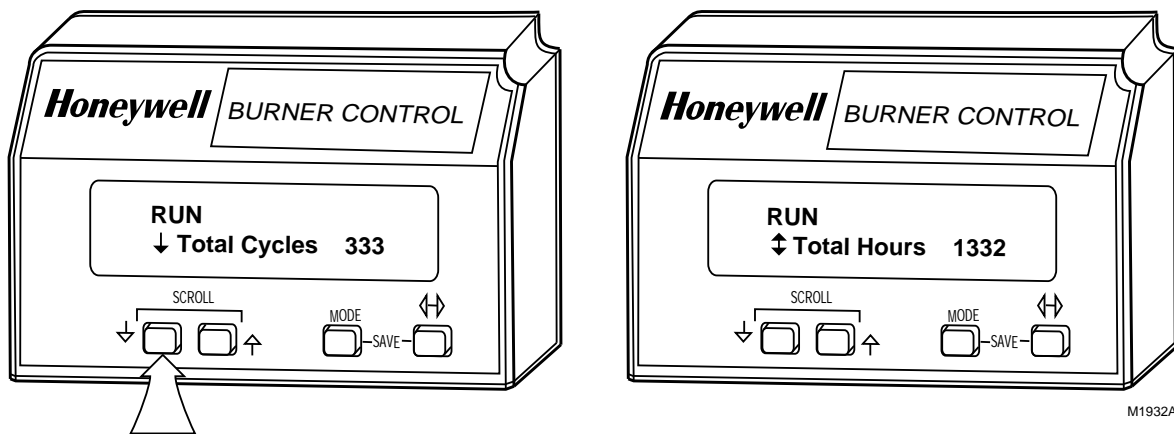

Fig. 18. (↕) SCROLL pushbutton function.
- 1 SCROLL Down-Up pushbuttons (↕), see Fig. 18.